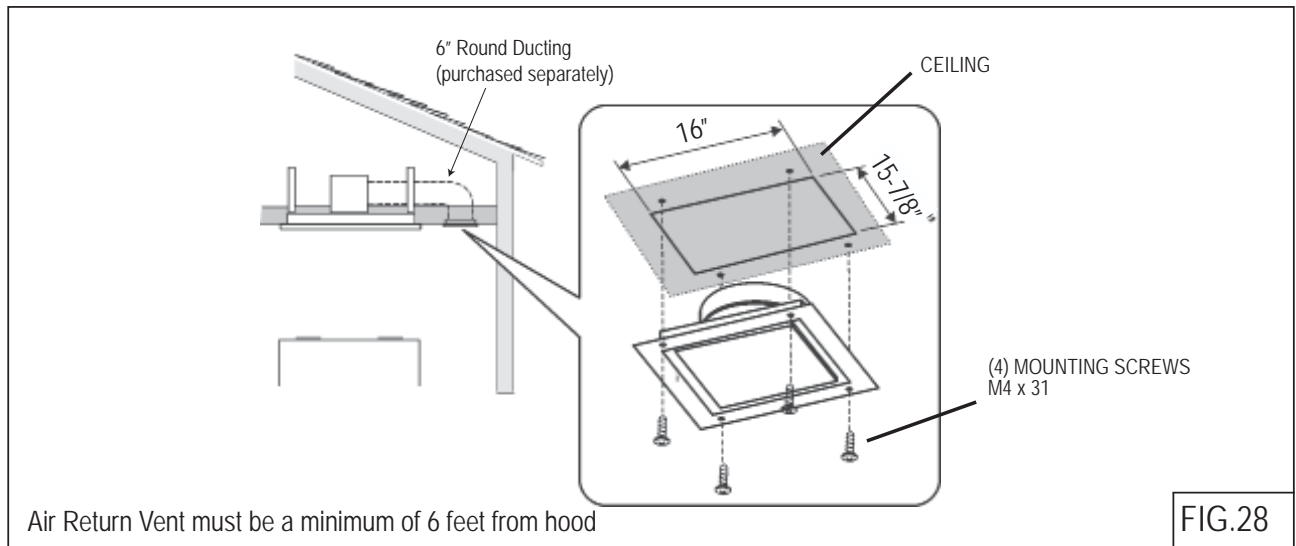

FIG.28
1. Install the air return vent to the ceiling by (4) M4 x 31 screws. FIG. 28